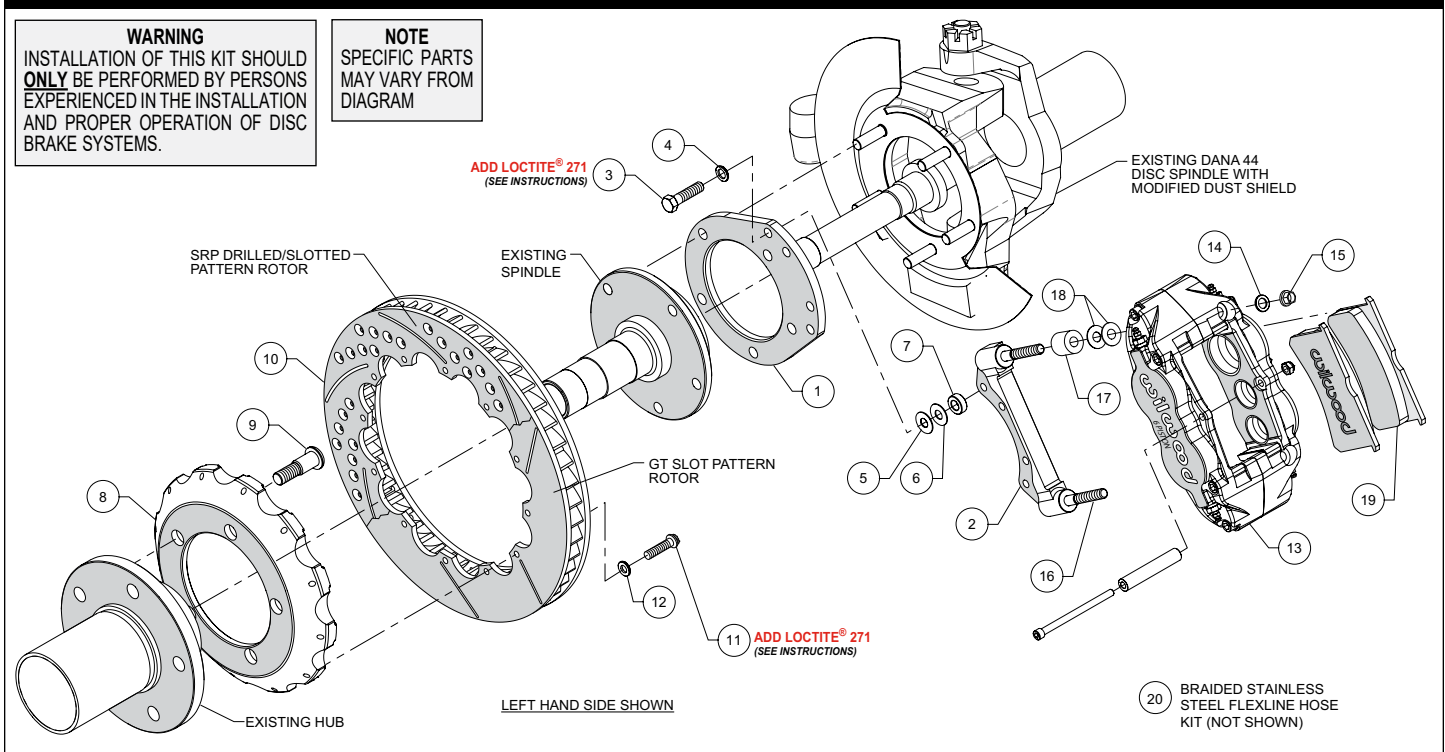

Figure 1. Typical Installation Configuration
NOTE: Numbers in parenthesis refer to the parts list and Figure 1 on the preceding pages.
- Orient the flat mount bracket (1) as shown in Figure 1 and Photo 1. Install the OEM spindle over the bracket and secure with OEM nuts, Photo 2. Temporarily tighten the mounting nuts. **NOTE:** The bracket must fit squarely against the mount bosses on the upright. Inspect for interference from casting irregularities, machining ridges, burrs, etc. Remove nuts one at a time, apply red *Loctite*® 271 to the bolt threads and torque nuts to OEM specification.
- The caliper mount bracket (2) should initially be installed with clean, dry threads on the mounting bolts. Orient the bracket as shown in Figure 1 and Photo 3, and install using mount bolts (3) and washers (4). Initially place one .035" thick shim (5) and spacer (7) on each bolt between the flat and caliper brackets, Figure 1. Temporarily tighten the mounting bolts. Later, after the caliper alignment has been checked, the mount bolts will be secured using red *Loctite*® 271.
- Orient the hat (8) and the OEM hub as shown in Figure 1 and Photo 4. **NOTE:** The hat must fit flush against the hub or excessive rotor run out may result. Install the wheel studs (9) thru
- Orient the rotor (10) and the hat/hub assembly as shown in Figure 1 and Photo 5. Attach rotor to hat using bolts (11) and washers (12). Apply red *Loctite*® 271 to the bolt threads and torque to 155 in-lb using a criss-cross pattern. For an added measure of security, the
•**NOTE:** This kit contains distinct right and left hand calipers that ***must*** be mounted in a specific direction, as described below. Place spacer (17) and initially two .035" thick shims (18) on each stud (16) as shown in Figure 1 and Photo 6. Mount the caliper (13) onto the bracket (2) using lock nuts (15) and washers (14), Figure 1. Temporarily tighten the lock nuts. Ensure that the caliper is mounted so the largest pistons are at the rotor exit end of the caliper, in relation to the direction of the rotor. View the rotor through the top opening of the caliper. The rotor should be centered in the caliper, Photo 7. If not, adjust by adding or subtracting shims (5 and/or 6) between the spindle bracket and caliper bracket. Always use the same amount of shims on each of the four mounting bolts. Once the caliper alignment is correct, remove the bracket to bracket mounting bolts (3) one at a time, apply red *Loctite*® 271 to the threads, and torque to 35 ft-lb.